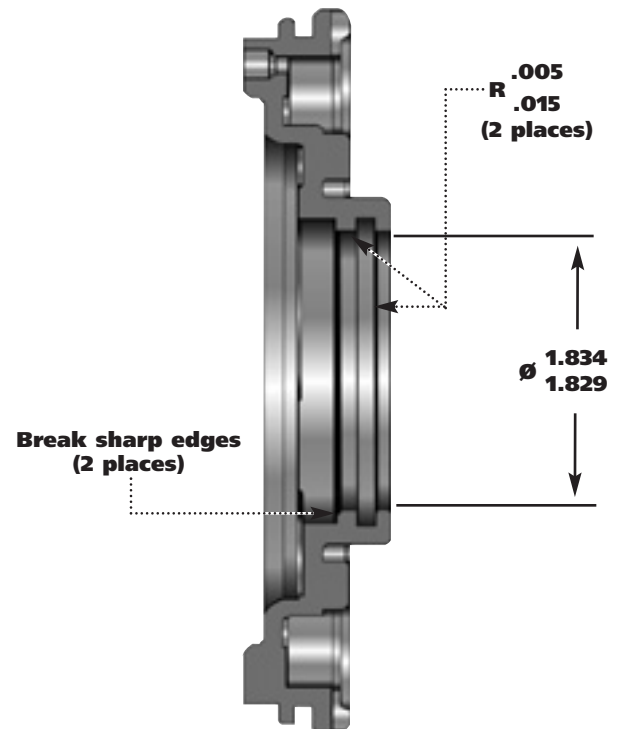

Figure 2
3. Bore the ID out $\text{\O}1.834"/1.829"$. Radius both sides of the seal groove with $R.005"/.015"$ radii. Make sure to deburr both outer edges (see Figure 2).